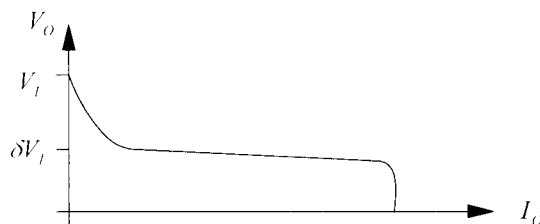

Figure 2
- (b) Figure 2 shows the output voltage of a buck switch-mode power supply as a function of output current when operated in open-loop with a set duty-cycle. Explain its shape.